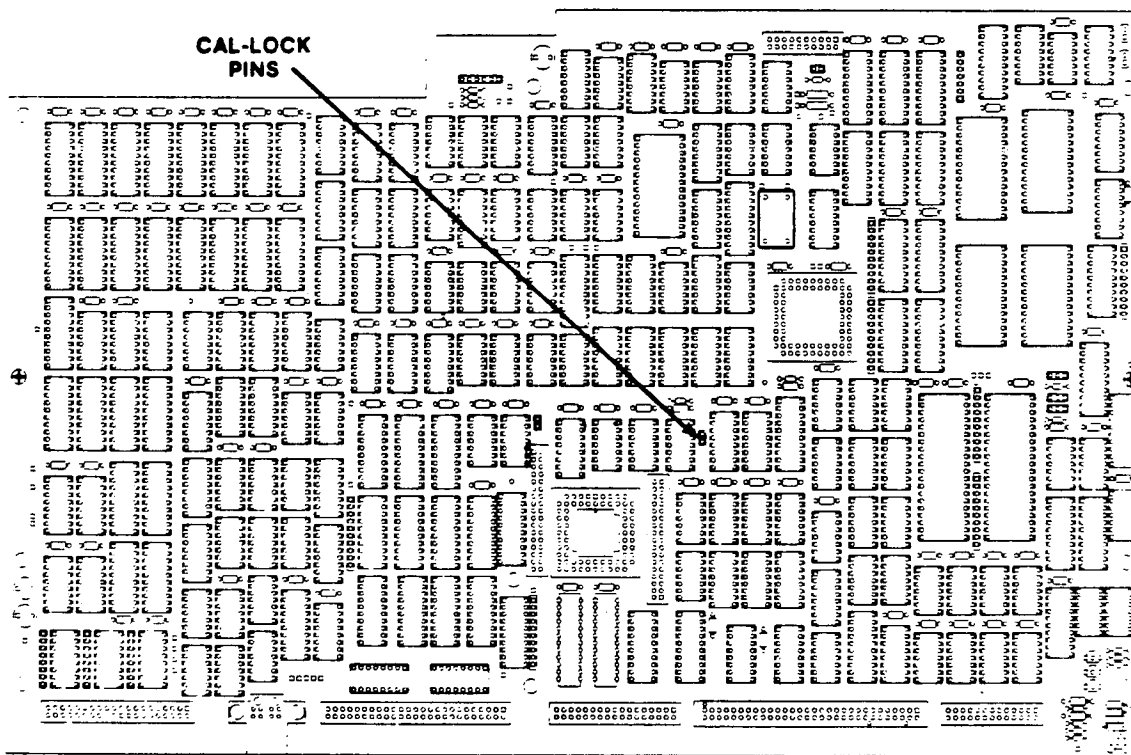

Figure 4. - 11401/11402 Time base ckt bd A6
- () 1. 11401 and 11402, remove the bottom cover of the mainframe and install a Term Conn Link (shorting strap) on the CAL-LOCK terminals located on the Time Base circuit board A6. Refer to Figure 4, for pin locations.